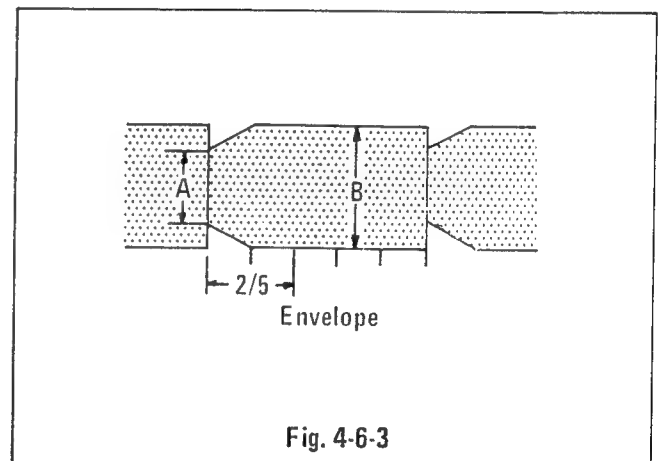

Fig. 4-6-3
- (3) While checking the waveform (envelope), adjust tape guide (a) so that the lower flange of the guide supports the lower edge of the tape. Next, adjust so that the size of amplitude A of the waveform is approximately  $-6\text{dB}$  ( $1/2$  the size) in relation to the size of amplitude B of the waveform at a position approximately  $2/5$  from the head switching point. (See Fig. 4-6-3.)